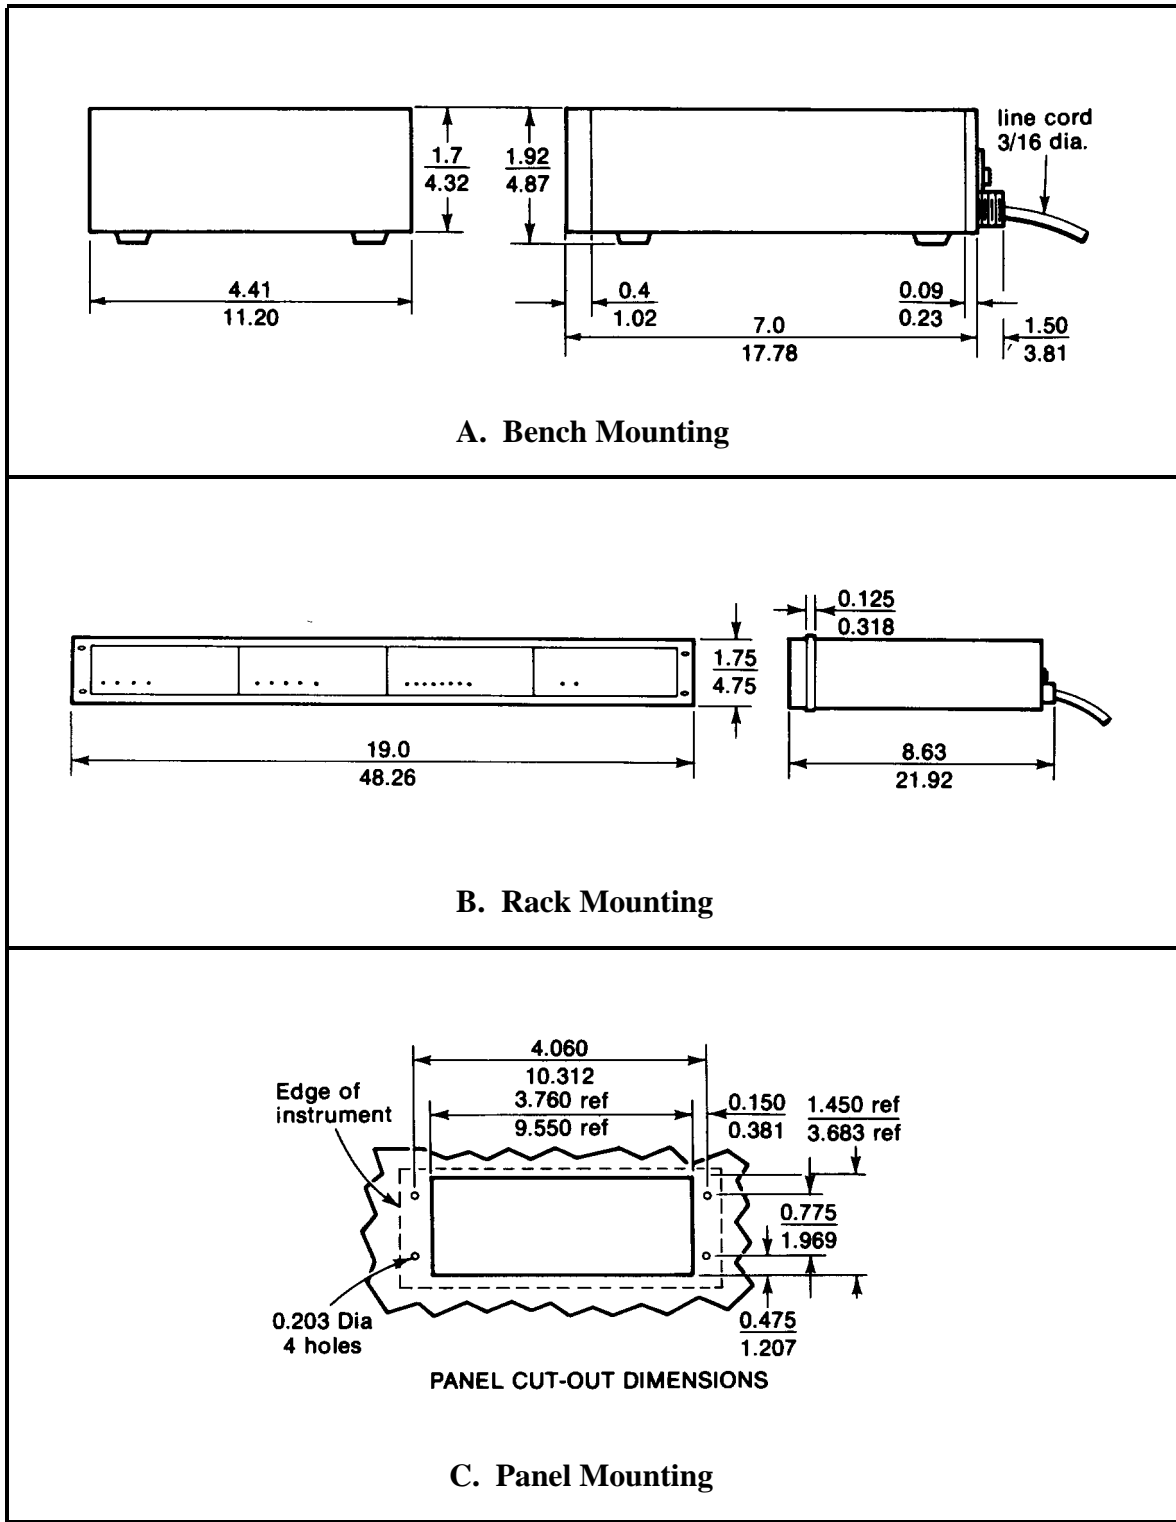
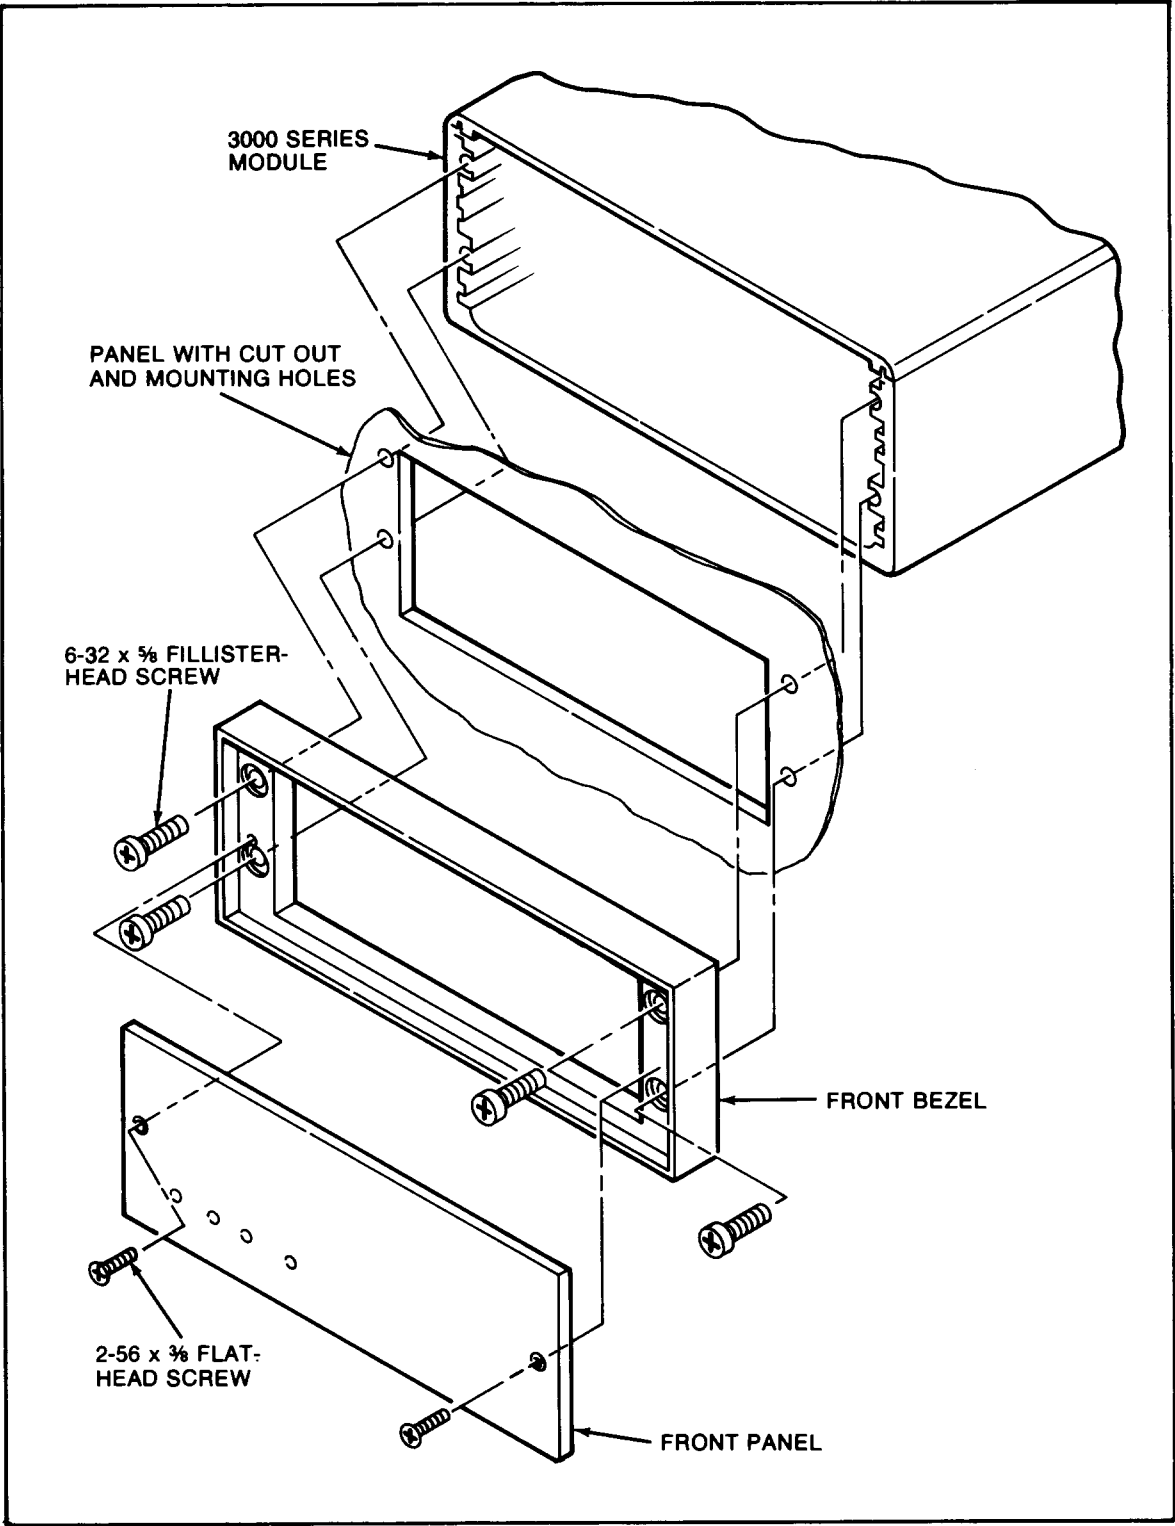

Figure 2. Instrument Mounting Dimensions
Figure 3. Instrument Panel Mounting
MOUNTING. The *3000 Series* instruments can be operated as bench-top instruments or they can be rack- or panel-mounted. Clearance dimensions for a bench-mounted instrument are given in Figure 2. Panel cut-out dimensions for panel mounting are also shown in Figure 2. Up to four *3000 Series* Instruments can be mounted in a 19-inch rack using the 1-3/4 inch high Model 3004 Rack Adaptor. Rack-mounting dimensions are also given in Figure 2. To panel mount an instrument, proceed as follows. Refer to Figure 3.
- (c) Make the panel cutout and drill the screw clearance holes indicated in Figure 2. The front bezel can be used as a template to define the rectangular cutout and locate the clearance holes.